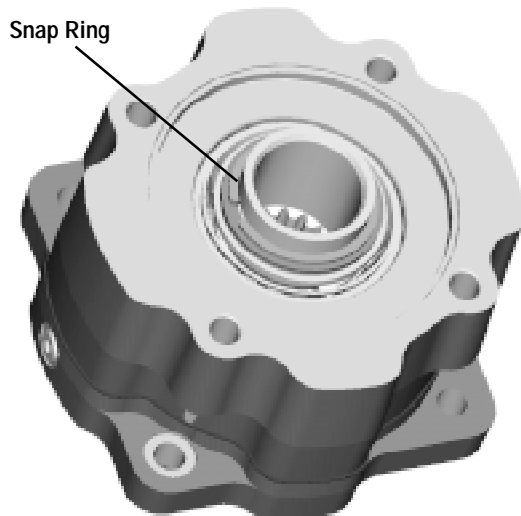

Figure 1.
- 5 Remove **snap ring-seal (10)** from **housing-piston (3)**.
- 6 Remove **snap ring (23)** from **shaft-output (1)**, see figure 1.